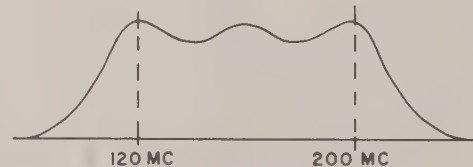

Figure 6. L2808 Response Curve
e. Connect the detector circuit at the output and adjust L2808 for an overall response as shown in figure 6.